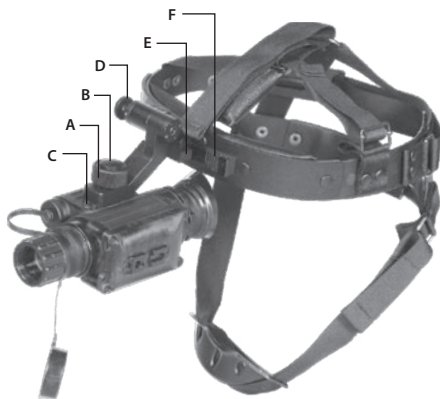

FIGURE 3-2. MOUNTING SPARK TO A GOGGLE KIT
Mount the Spark to the optional goggle kit as follows (refer to Figure 3-2):
2. Loosen the screw (A). While pushing down on the button (B), insert the Spark rail into the guide (C) of the goggle kit bracket. Tighten the screw (A).
4. To adjust the equipment for greater comfort, loosen the screw (A) and move the unit along the guide (C).
5. The goggle kit has a flip-up mechanism. Push the button (D) of the goggle kit bracket and lift the unit up until it reaches its top position.
6. Push the same button (D) to lower the unit into the correct viewing position.
- Figure 3-2 shows the Spark in the correct position for the right eye. To readjust the unit for the other eye, remove the unit from the goggle kit bracket. Turn the unit around (180°) and mount it on the bracket through the rail on the second side. With the button (E) pushed, move the unit along the slide-rail (F) until the desired, most comfortable position is reached.
- To remove the Spark from the goggle kit, loosen the screw (A), push the button (B), and slide the unit out of the bracket guide (C).